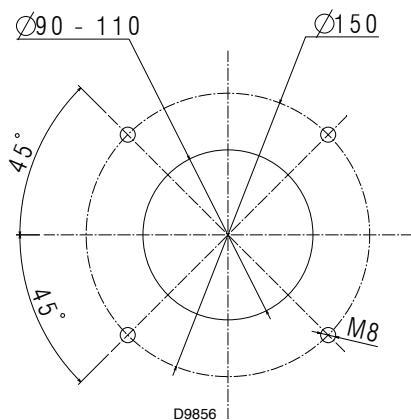

Fig. 6
- Drill the boiler plate as shown in Fig. 6 (complying with EN 226).